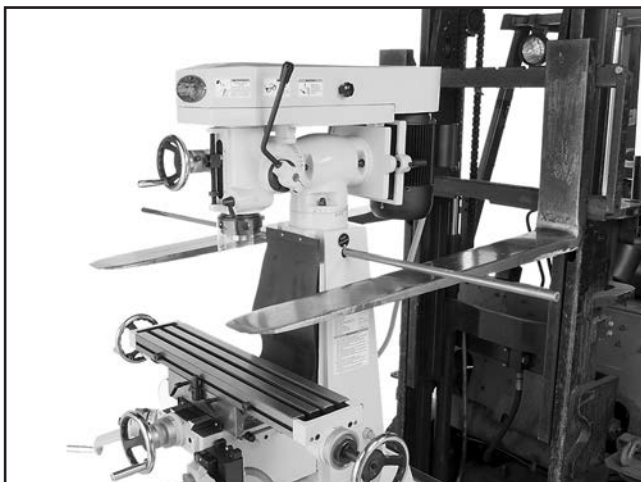

Figure 8. Lifting the mill.
2. Place the forklift forks under the bar and close to the column on both sides, as shown in **Figure 8**.